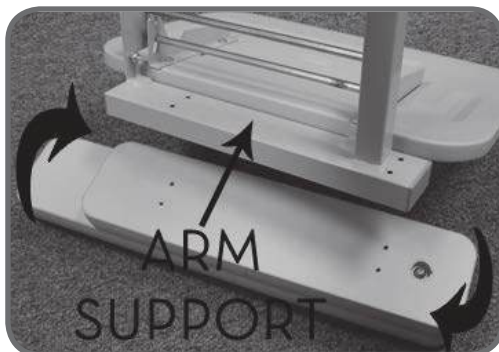

FIG 2
3. The cabinet installs on the **PATIENT LEFT** side of chair (**FIG 2**). Insert the cabinet assembly into the receiving tube. **ALWAYS** make sure that the slot in the Arm Assembly faces the knob installed on the receiving tube. (**FIG 2**)
2. To reinstall the drawer, insert the rear part of the drawer past the drawer stop, then slide the drawer into the frame. (**FIG 2**) Bin dividers can be installed into the grooves as needed (**FIG 2**)
2. Use a Phillips or #2 square bit screwdriver to remove the four (4) wood screws on the underside of the arm assembly that hold the pivot arm assembly onto the steel arm support.
3. After removing the four (4) wood screws, rotate the steel arm support 180° **(FIG 2)**.
3. After removing the four (4) wood screws, rotate the pivot arm assembly 180° (**FIG 2**).
- Using #2 screwdriver provided (FIG 3), remove 4 Screws (FIG 2)
2. Remove two (2) 5/16-18 bolts using wrench provided (**FIG 2**)
2. To reinstall the drawer, insert the rear part of the drawer past the drawer stop, then slide the drawer into the frame. (FIG 2) Bin dividers can be installed into the grooves as needed (FIG 2)